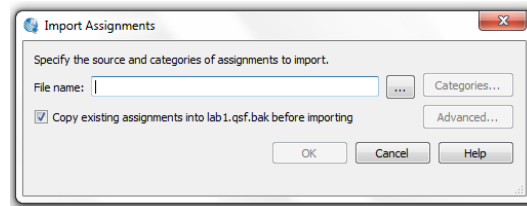

Figure 7: Import assignments dialog box
1. Go to **Assignments** → **Import Assignments** → **Select DE2-115.qsf** as shown in Figure 7. This file should be downloaded from Sakai under resources.